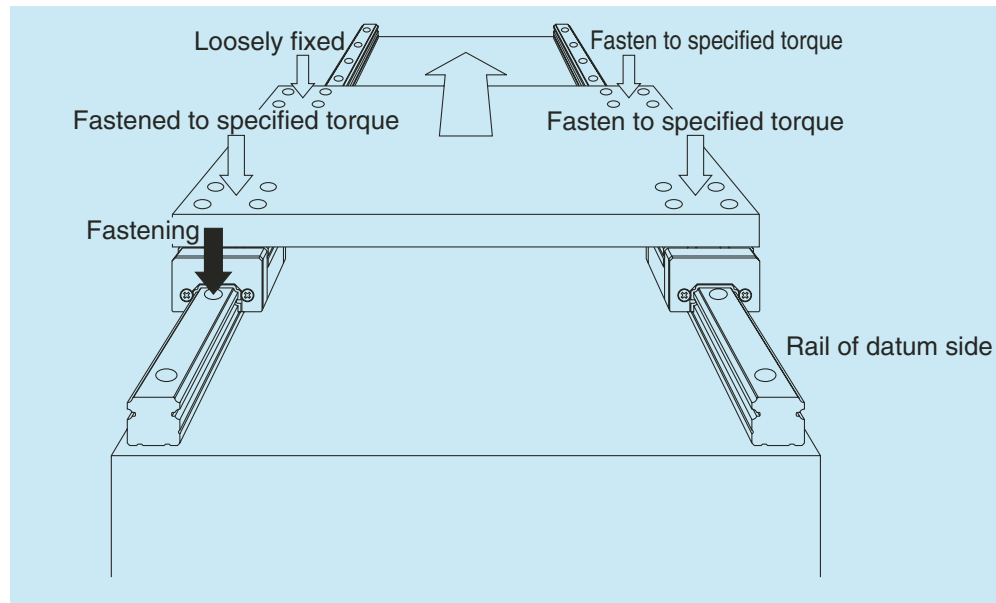

Fig. 10.18 Easy installation
- [3] Tighten the slides on the reference side rail and one slide on the adjustment side rail with the specified torque. Leave the rest of the slide on the adjusting side rail loosely tightened (**Fig. 10.18**).